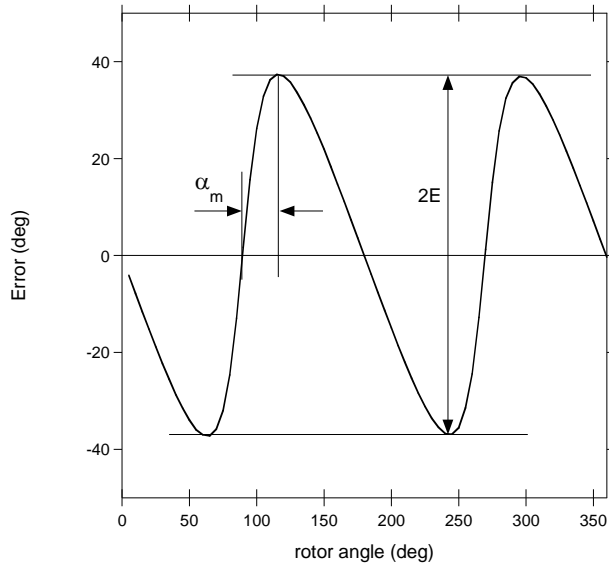

Figure 7: Error Curve in Side-Shift Configuration with BCT = 0
It is possible to deduce the k ratio from the error curve obtained with the default BCT setting ($BCT = 0$). For this purpose, rotate the magnet over one revolution, record the MP6570 angle sensor output, plot the error curve (i.e.: the sensor output minus the real mechanical position vs. the real mechanical position), and extract two parameters: the maximum error (E) and the position of this maximum with respect to a zero crossing a_m (see Figure 7).